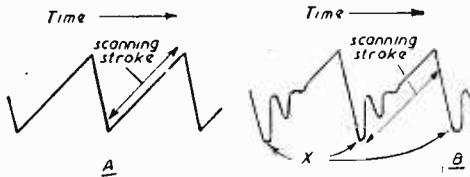

Fig. 4.—(A) The desired current waveform in the scanning coils, and (B) how the waveform is modified by virtue of the damped oscillation.
The illustrations of Fig. 4 show at (A) the desired current waveform in the scanning coils, and at (B) how the waveform is modified by virtue of the damped oscillations. Since the oscillations are superimposed on the portion of waveform corresponding to the start of the scanning stroke, they tend to distort the left-hand side of the raster by alternately cramping
The operation of the circuit being that during the first half cycle of damped oscillation (sections of waveform denoted (X) Fig. 4 (B)), the damping diode is wrongly connected in direction to allow it to conduct, but on the next half cycle passes the oscillatory energy into the 25 μ F. capacitor C1 which charges and holds the diode at cut-off during the subsequent scanning stroke. We can realize this function better by referring to Fig. 6 (B), where we can see that the normal flyback comprises the section of waveform (a) (b); section (b), (c), (d) is virtually the initial negative half cycle of damped oscillation resulting from the flyback. Thus, from point (c) to (d) a fairly linear current rise commences to flow in the line scanning coils—derived solely from the oscillatory energy—and the scanning spot starts its horizontal sweep across the picture-tube. At point (d) the line output valve commences to conduct due to the effect of the sawtooth waveform from the line generator, and the remainder of the scan—section (d) to (e)—is derived from the actual power generated in the line output stage.